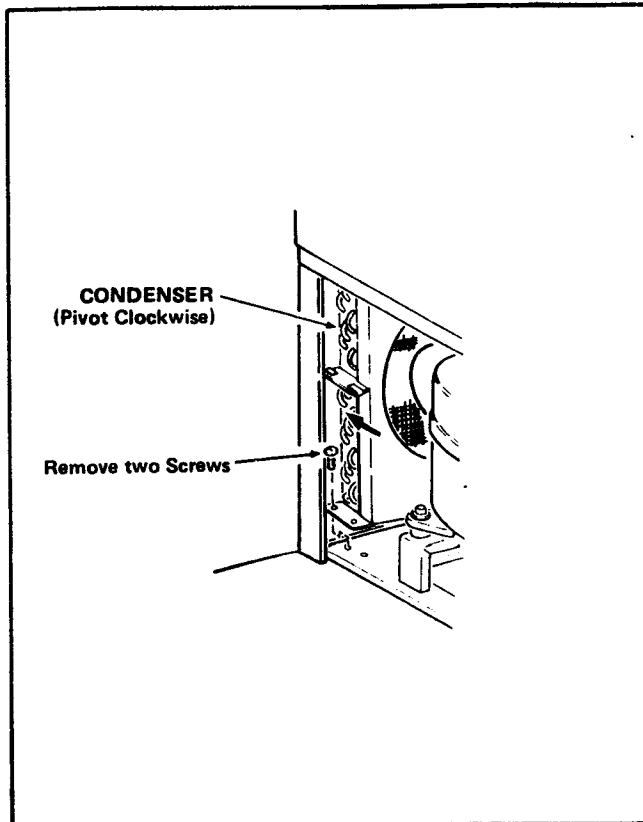

Figure 3-2. Access to Fan Motor
- D. Pivot the Condenser Assembly clockwise for access to the Condenser Fan Motor. See Figure 3-2.